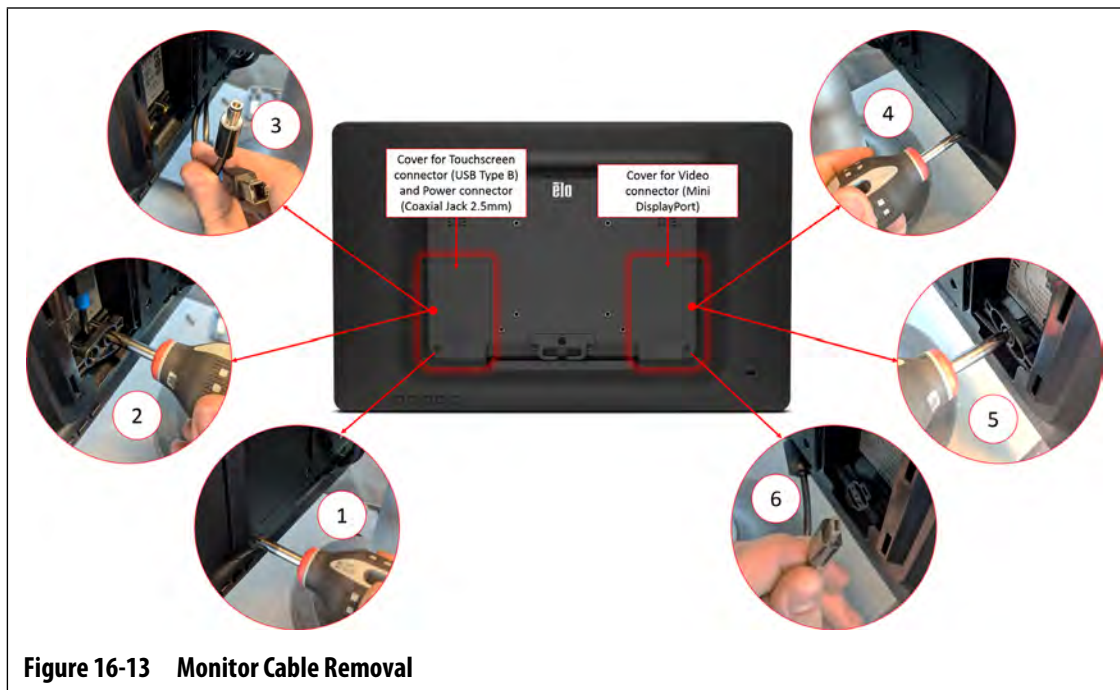

Figure 16-13 Monitor Cable Removal
3. On the back of the touch monitor, towards the left-hand side, find the cover for the Touchscreen and Power connectors, and then remove the screw that secures it with a #4 Phillips screwdriver. Refer to number 1 in Figure 16-13.
4. After the cover has been removed, find the cable retaining bar and remove the screw that secures it with the #4 screwdriver. Refer to number 2 in Figure 16-13.
5. After the cable retaining bracket has been removed, carefully pull downward on the Touchscreen (USB Type B) connector to disconnect it from its port and follow the same step for the adjacent Power (Coaxial Jack 2.5mm) connector. Refer to callout 3 in Figure 16-13.
6. On the back of the touch monitor, towards the right-hand side, find the cover for the Video connector and remove the screw that secures it with a #4 Phillips screwdriver. Refer to callout 4 in Figure 16-13.
7. After the cover has been removed, find the cable retaining bar and remove the screw that secures it with the #4 screwdriver. Refer to callout 5 in Figure 16-13.
8. After the cable retaining bracket has been removed, carefully pull downward on the Video (Mini DisplayPort) connector to disconnect it from its port. Refer to callout 6 in Figure 16-13.